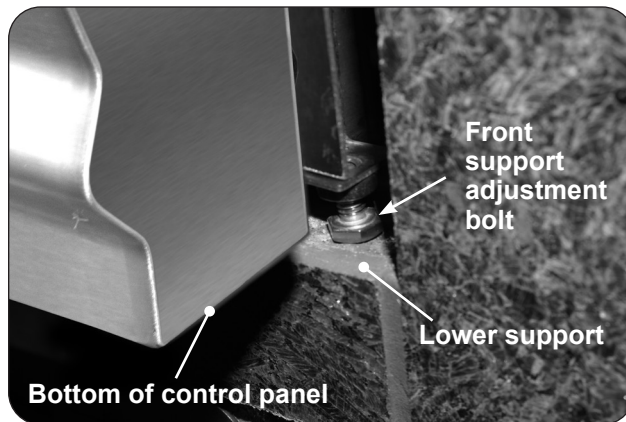

Fig. 26-1 Front support adjustment bolts
2. Rotate the front support adjustment bolts (up or down) until the grill hanger rests flush on the countertop, AND, the adjustment bolts are touching the supporting structure found at the bottom of the cutout (lower support). Use a $\frac{7}{16}$ " open-end wrench as needed. See Fig. 26-1.